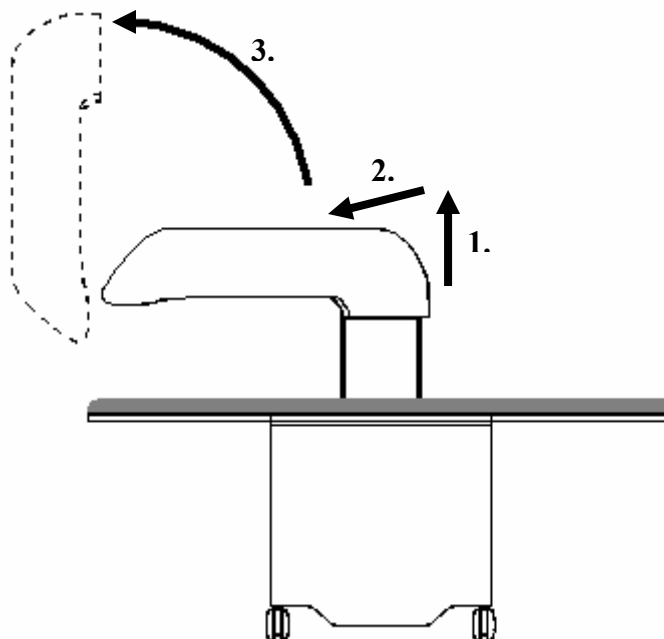

Figure IV-5 : Removing the arm bonnet
5. (See Figure IV-5) Lift the rear part of the cover while holding onto the front part (1.). Pull the cover slightly towards its front (2.) to be able to set it entirely upright (3.) with the left hand while holding onto the spike with the other.